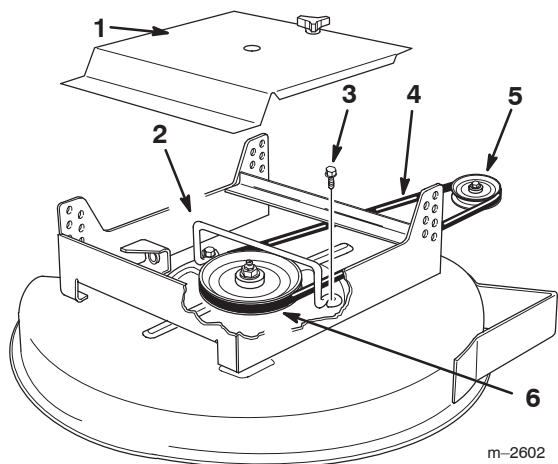

Figure 40
- Grease the fitting on the spindle pulley bearing (Fig. 40).
2. Loosen the hand knob holding the mower cover to the top of the mower and remove the cover (Fig. 40).
- Remove the two flange-head bolts holding the belt guide to the top of the mower and remove the belt guide (Fig. 40).
- Install the mower cover onto the cutting unit, then tighten the hand knob (Fig. 40).